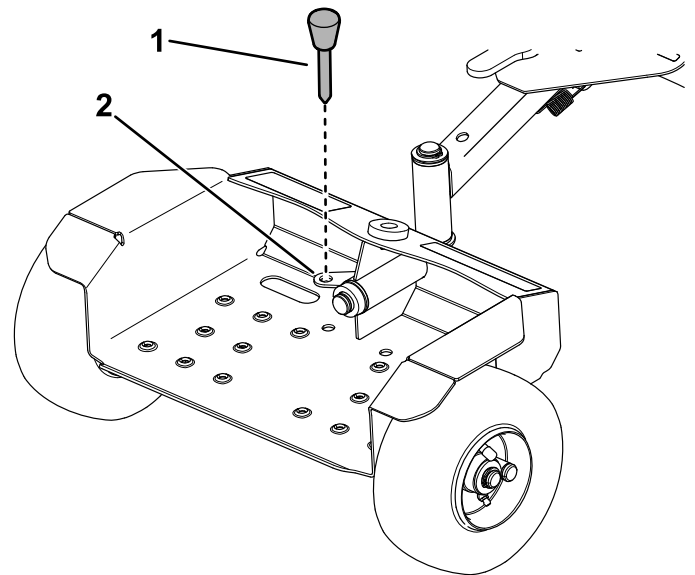

Figure 5
3. Store the transport pin in the pin plate shown in Figure 5.
6. To lower the sulky, push the sulky forward, pull back on the latch, and use the handle to lower the sulky. Remove the transport pin and store it in the pin plate (Figure 5).